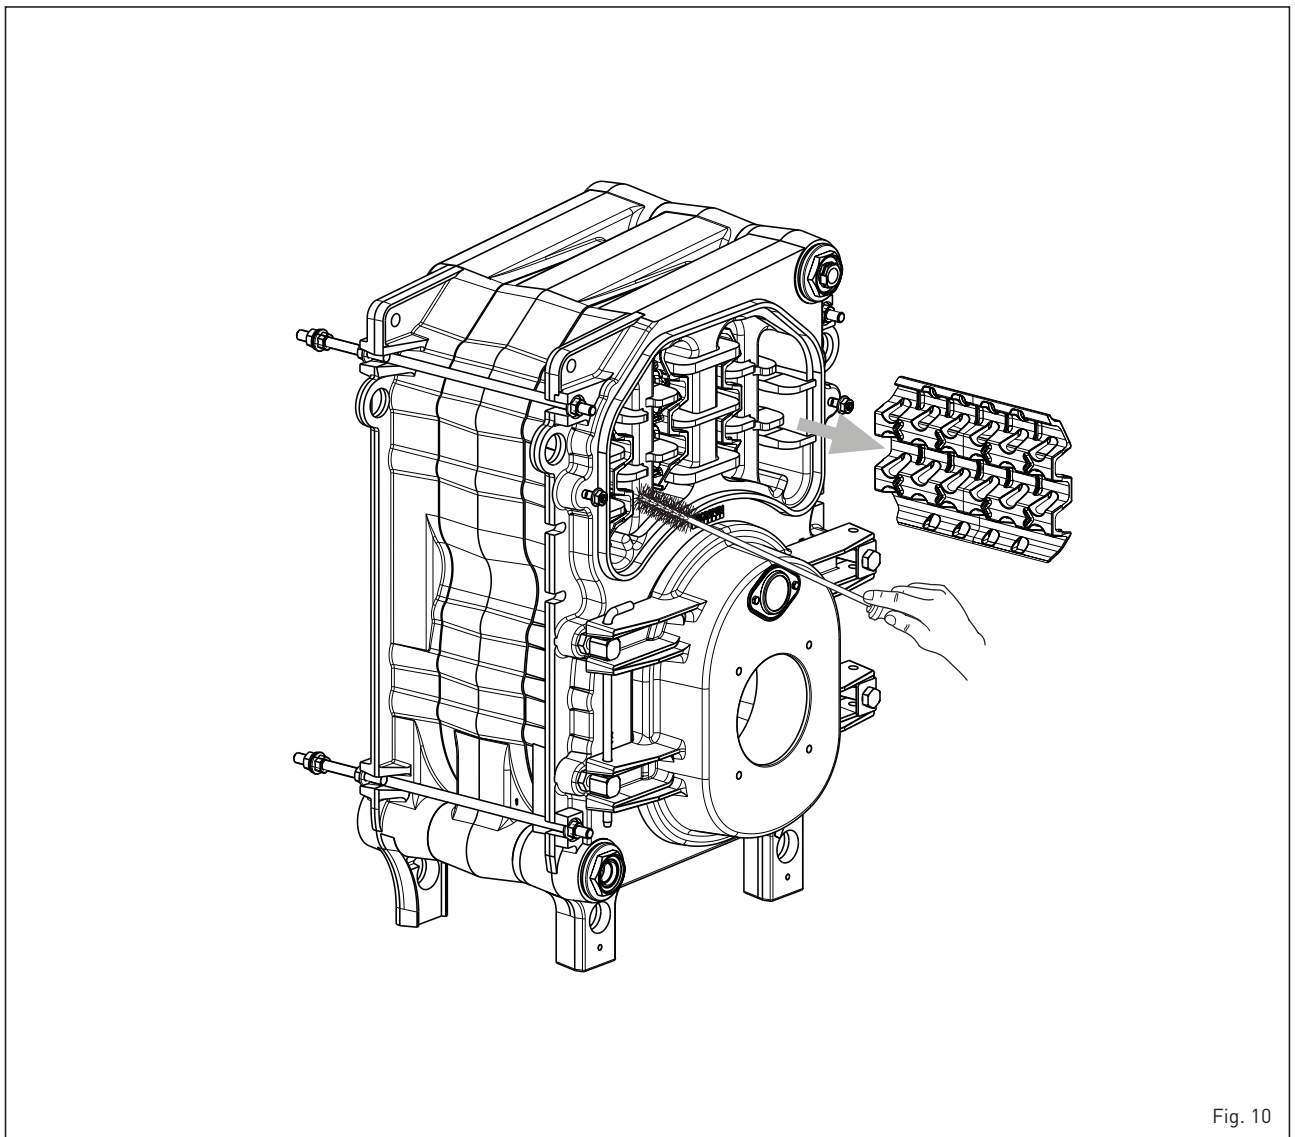

Fig. 10
3.3.1 Smoke side boiler (fig. 10)